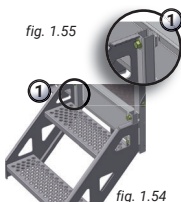
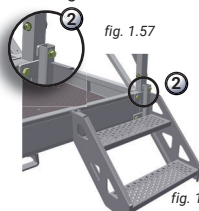

fig. 1.54
fig. 1.56
- 2- Secure in place with two bolt assemblies as shown in fig. 1.54 and fig. 1.56.